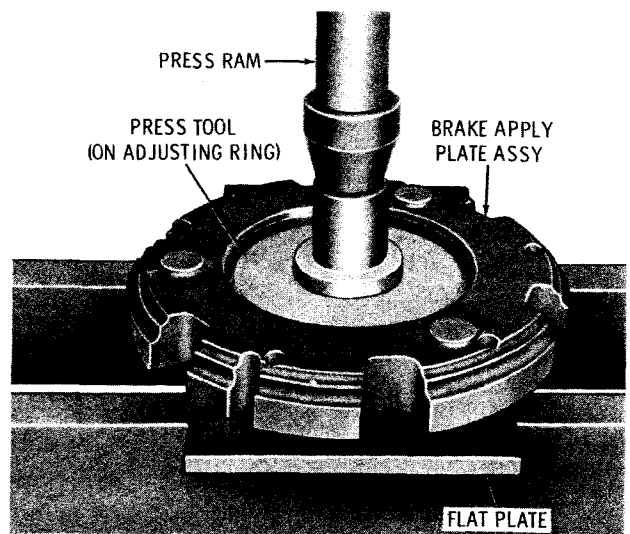

Fig. 6-20. Pressing brake adjusting ring flush with apply plate surface
(4) The brake apply plate assembly (fig. 6-20) must be readjusted to the setting established when the transmission was new, so that the automatic adjustment for brake wear and proper release clearance are provided. This adjustment is made by positioning the apply plate assembly, front downward, in a press on a smooth, flat plate (fig. 6-20). Press the brake adjusting ring 21 (B, foldout 7) downward until its front surface is flush with the front surface of brake apply plate 23.
(1) Position the rear cover assembly, mounting flange upward, and remove the snapping that retains the brake apply plate assembly (fig. 6-20). Remove the brake apply plate assembly. Do not disassemble the apply plate assembly unless it fails to meet the minimum press force of 400 pounds (1779.3 N) (not psi) during the readjustment procedure.
(2) Conduct the readjustment procedure described in a(4), above. If the readjustment procedure indicates that replacement of the spring pins is necessary, refer to the disassembly procedures described in a(5), above.